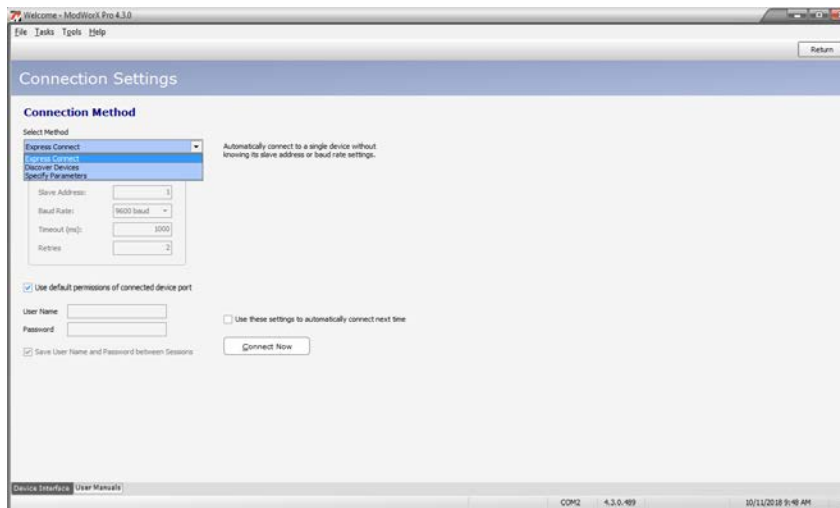

Figure 1.2
2. Click **Connect**. The Connection Settings screen will appear (Figure 1.2).
- 4. On initial login, the system will automatically connect to the Scanner using default security permissions (full access). The “*Use default permissions of connected device port*” checkbox (shown in Figure 1.2, page 2) will be checked. No user name or password is required for login.